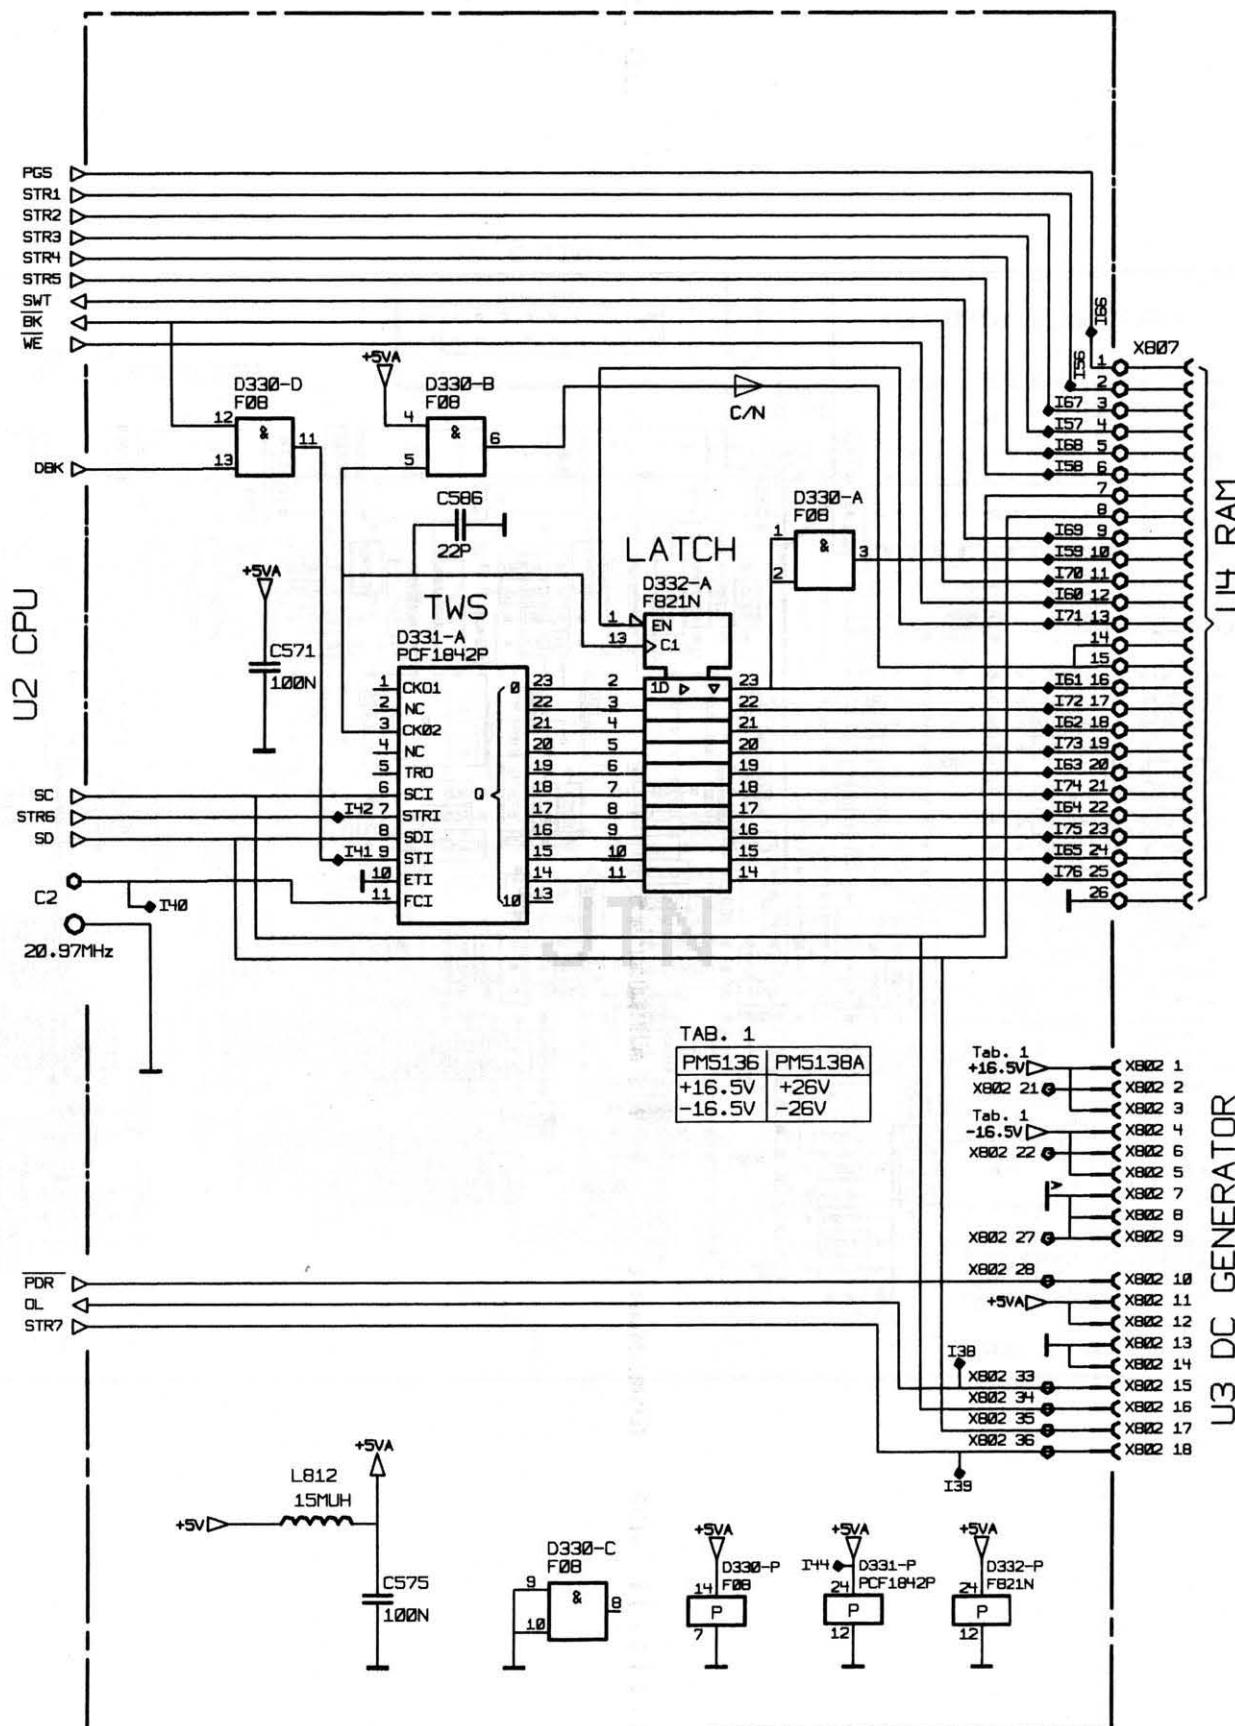

Fig. 107 Unit 2, Triangle Wave Synthesizer (TWS)
- Fig. 107 Unit 2, Triangle Wave Synthesizer (TWS)